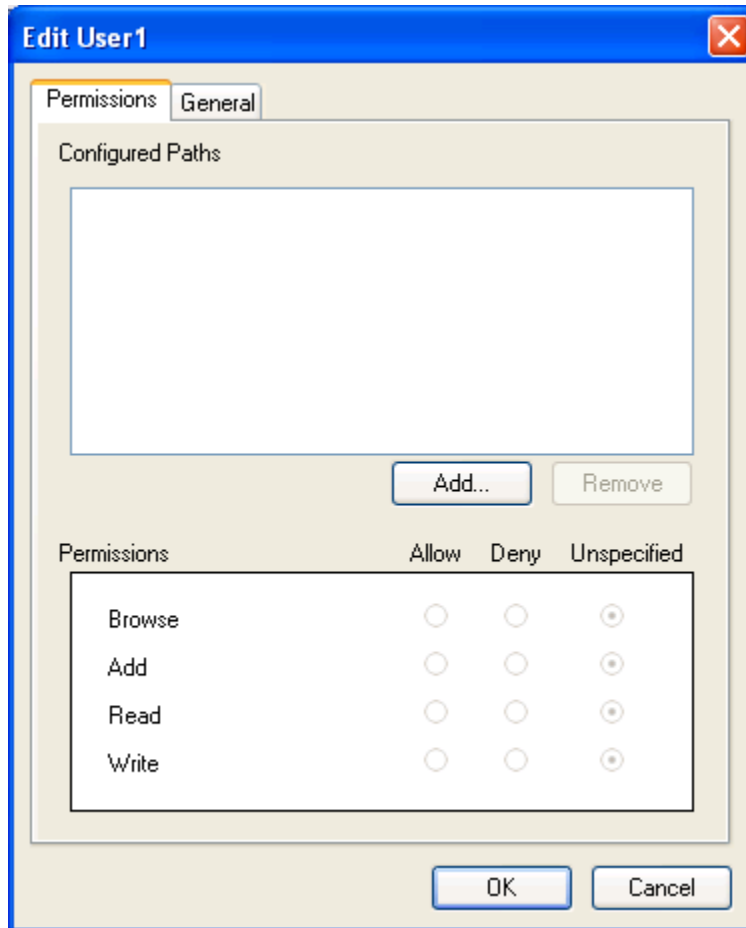

Figure 46 - Edit <Username> Window (Permissions Tab)
6. The **Edit <Username>** window (Figure 46) appears. Follow the instructions in the **Edit User** section for adding permissions.
2. The **Edit <Username>** window (Figure 46) appears.